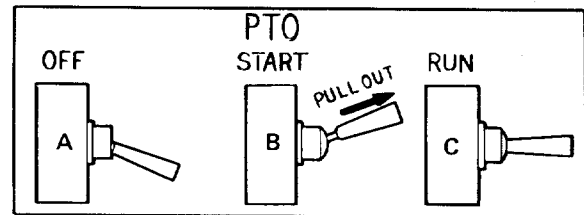

Figure 25
2. Flip the toggle switch to the "RUN" (C) position. (See Figure 25.)
5. PTO switch must be in the "OFF" (A) position when shifting the tractor into reverse or the PTO will shut off automatically. To reengage the PTO, shift unit into neutral. Move PTO switch to "OFF" (A) position. Then pull knob out and lift up to "START" (B) position and release.